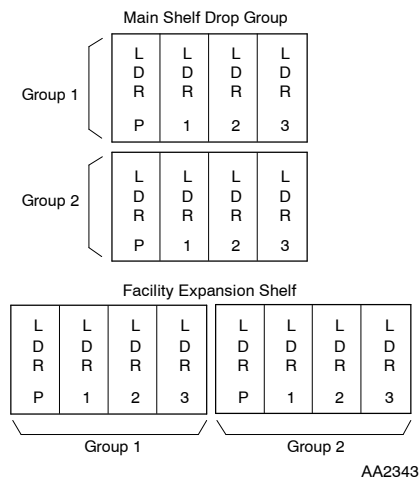

Figure 1. LDR501 Locations in Main Shelf and Facility Expansion Shelf (FES)
- 148** In LDR Group 1, remove protection LDR (LDR-P) from service [DLP-501]. See Figure 1 for LDR501 locations.